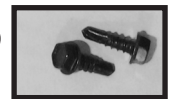

Figure 2. Refractory Kit Hardware
(2) Refractory Brackets (See Figure 2)
(6) Refractory Screws (See Figure 2)